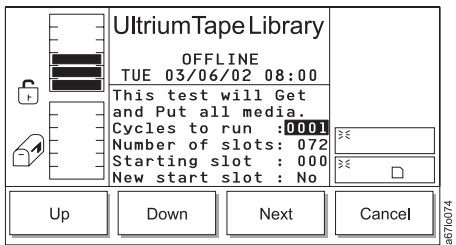

Figure 4-140. Get/Put Dialog
5. Press the button below the **Get/Put** softkey. The Get/Put Dialog displays (see Figure 4-140).